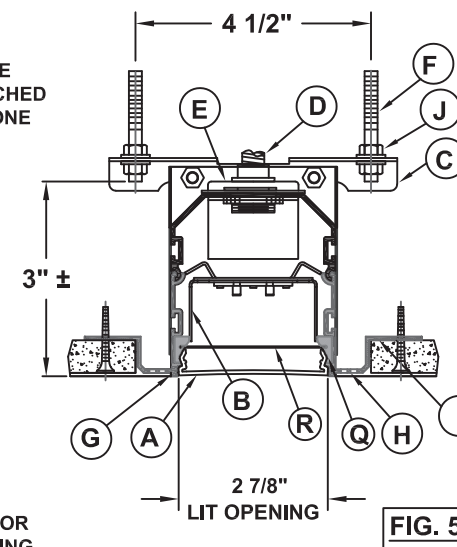

FIG. 5
PROVIDE TWO PAIR OF 1/4-20 THREADED RODS (F) ON CENTERS AS INDICATED IN FIG. 5 BY LENGTHWISE SPACING AS INDICATED ON FACTORY SHOP DRAWING. THREADED RODS SHOULD BE SECURELY ATTACHED TO STRUCTURE ABOVE AND TERMINATE APPROXIMATELY 3" ABOVE FINISHED CEILING LINE. THREAD ONE JAM NUT (J) ON EACH THREADED ROD TO A POINT ABOVE FINAL HEIGHT ADJUSTMENT. (REF. FIG. 5)